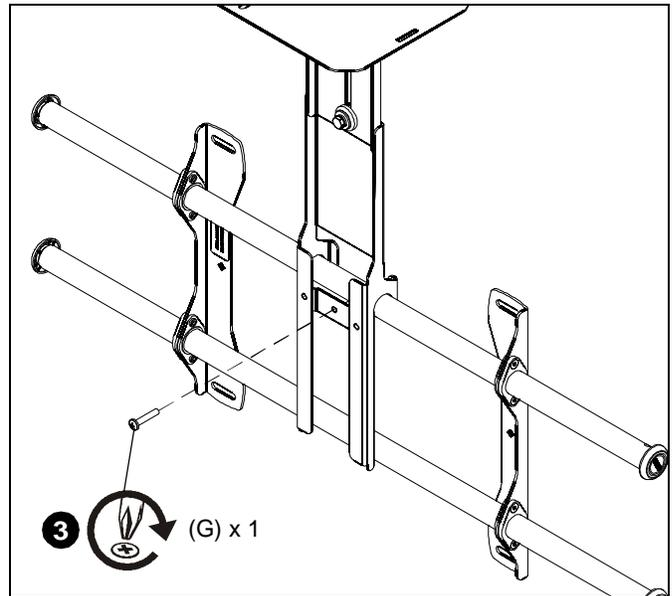

Figure 6
- Adjust location of FVS200/FVS250 and secure to wall mount rail using one 10-24 x 1" Phillips pan head screw (G). (See Figure 6)